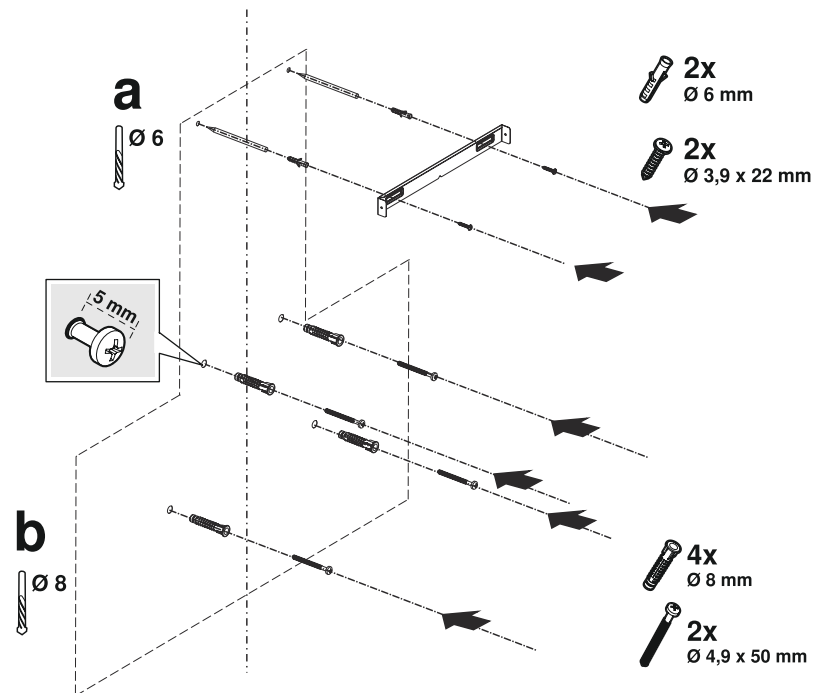

Fig. 11
- ➔ Draw a mid location line from the ceiling perpendicular to the lower edge of the hood (Fig. 11).
- ➔ There is a tab in the middle of the flue connection plate. Place the middle point of this tab on the line that is drawn perpendicular to the wall. Align horizontally and mark the holes where the connection plate will be mounted via a pen (Fig. 11/a).
Drill the marked points with Ø6mm drill and insert 2xØ6mm plastic dowels in the drilled holes (Fig. 11/a).
Fix the flue connection plate to the wall with 3,9x22 screws (Fig. 11/a).
3. ➤ To drill the suspension holes of the flue, place the mounting template on the surface where the appliance will be mounted on and mark the mounting holes (Fig. 11/b).
4. ➤ Drill the suspension holes with Ø8mm drill and place the dowels (Fig. 11/b).
Place 2x4.950 suspension screw with a clearance of 5 mm between the screw head and the wall (Fig. 11/b).